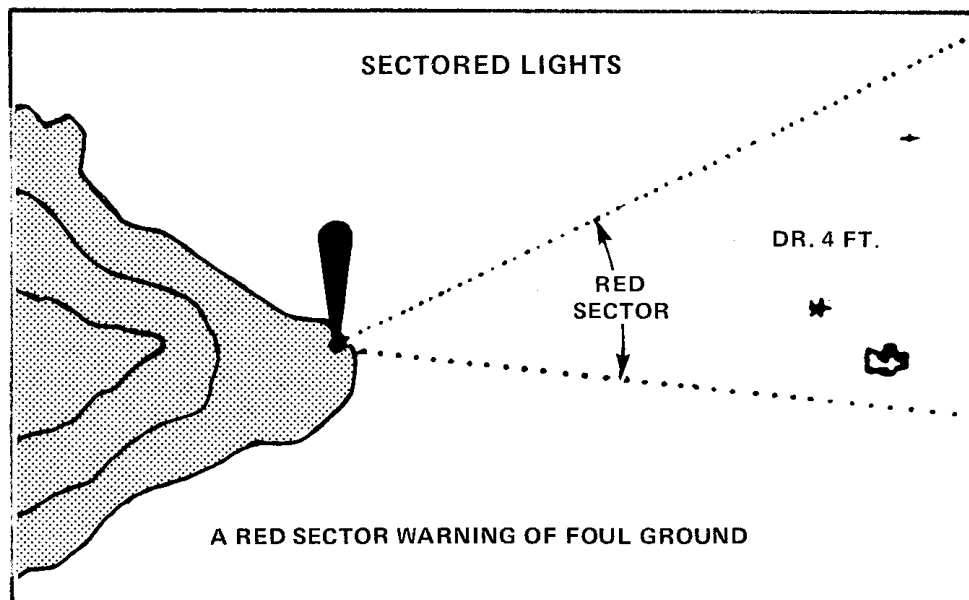

Figure 7-21 Sectored Light
61. **Sectored Lights** — It is not uncommon to encounter a **sectored light**, which shows one colour, say white, around part of the arc of visibility, and a different colour, say red, in the remainder of the arc. The **coloured sector shines out over an area where hazards exist**. If the pilot sees the light change from white to red he knows he is on the margin of a dangerous area. The chart will tell him whether the hazards lie close in, offshore, or both. The older sectored lights do not always produce sharp colour division and the colour change cannot be fully relied upon. Some recent installations show three narrow and accurate sectors similar to range lights to provide direction in a narrow passage. The dotted sector lines may be marked, as to their bearing, in degrees from seaward, not from the light. (See Figure 7-21.)